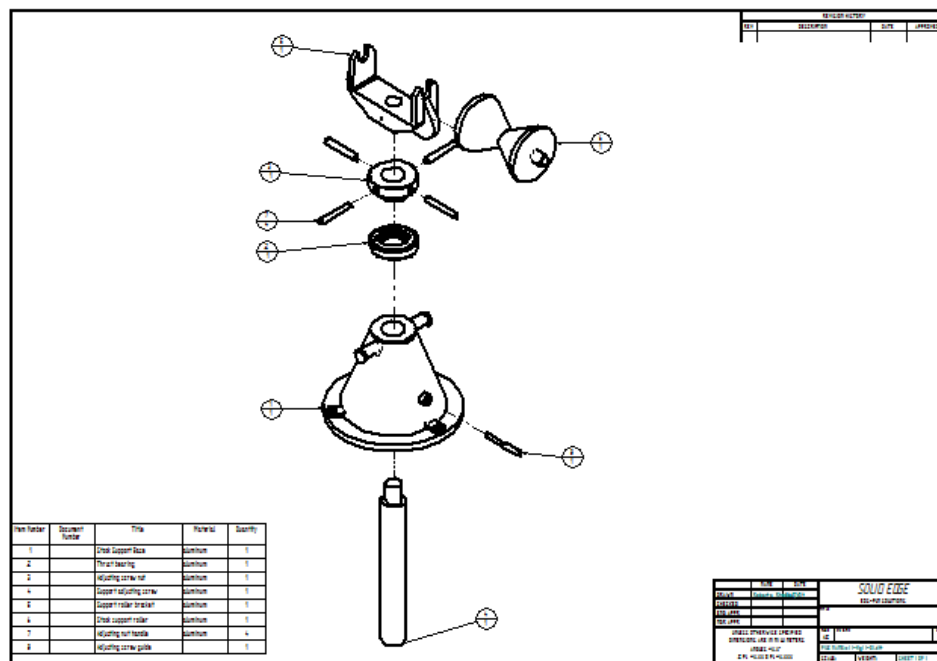

Figure 12-27 Exploded view of the assembly with BOM and balloons
5. Choose the **Finish** button to place the parts list and balloons, as shown in Figure 12-27.